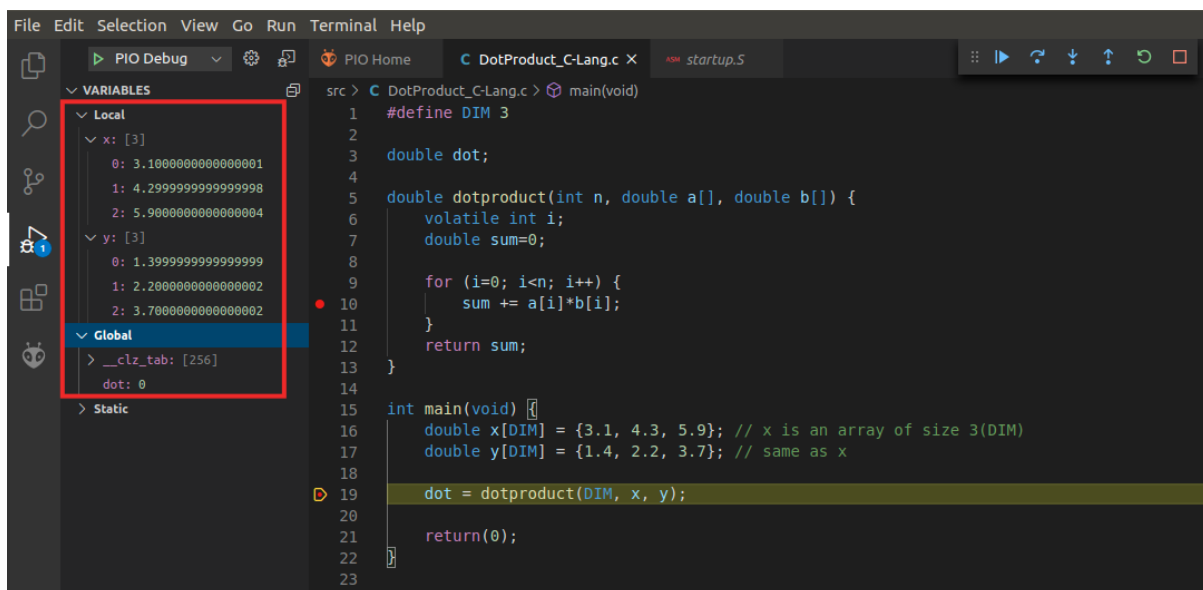

Figure 78. DotProduct_C-Lang program: values of the variables at the first breakpoint
3. Before calling the debugger, set a breakpoint at line 10 and another one at line 19 (see Figure 78).
4. Then, start debugging. The program will start executing; stop it at the first breakpoint (see Figure 78).
5. On the Debugger sidebar, expand the Variables section (see Figure 78). The two vectors contain the initial values assigned in *main*. The *dot* variable is initialized to 0.